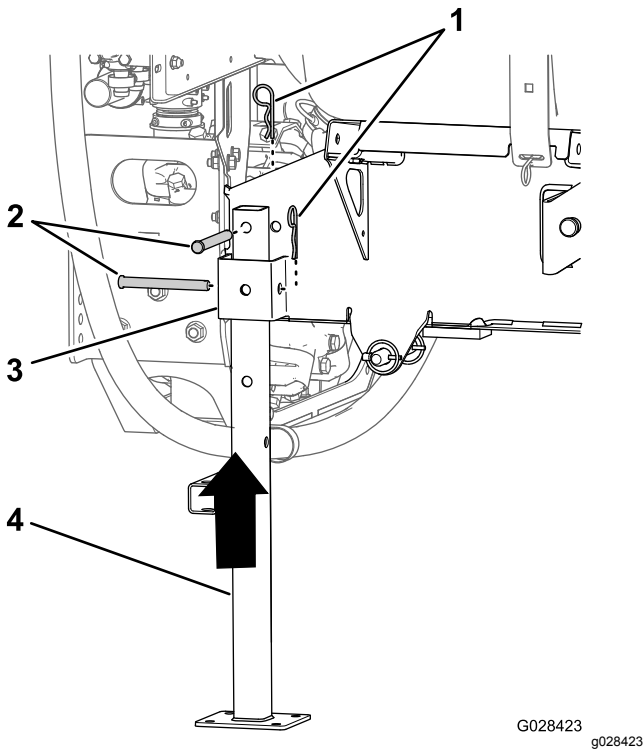

Figure 106
5. Align the rear jackstand with the rear jackstand receiver (Figure 106).
- Align the hole in the top of the jackstand with the hole in the frame of the tank skid (Figure 106)
- Secure the jackstand to the receiver and the frame with 2 clevis pin (1/2 x 4-1/2 inch) and 2 hairpins (5/32 x 2-5/8 inch) as shown in Figure 106.